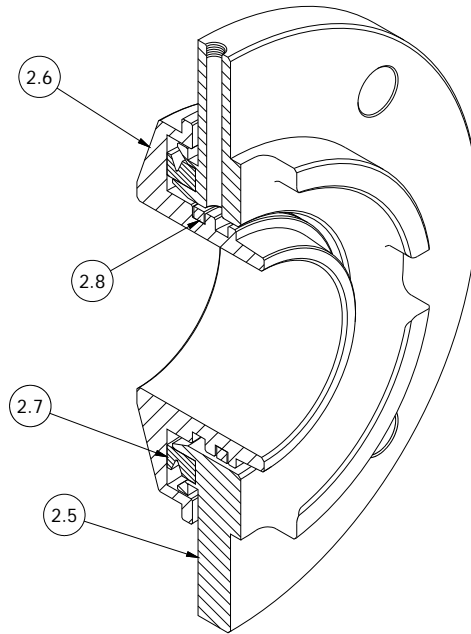

Fig 3.
15. Grease Piston Rings(2.8) and install on each Bearing Labyrinth(2.6) with gaps directly opposite of each other. (See Fig 3.)
16. Fit V-Ring Seal(2.7) into notch in Bearing Cover(2.5). (See Fig. 3)